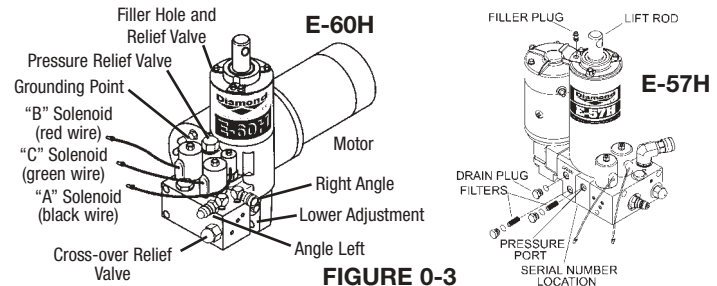

FIGURE 0-3
Note: On Model E-60 only to regulate the lower speed, locate the lower adj. screw on page 19, Fig. 0-3. Turn adj. screw in to slow down or out for faster lower speed. **Adjustments must be made with moldboard on the ground.** This feature is **not** available on model E-57.
- Screen-Type Filters** - Clean the filters (all models) with mineral spirits or equivalent and blow out with compressed air. See Figure 0-3.
6. Pump pressure can be measured at an angle hose (note pressure at full angle) or in the pressure filter port (an adapter is necessary for the filter port). (See Figure 0-3.)